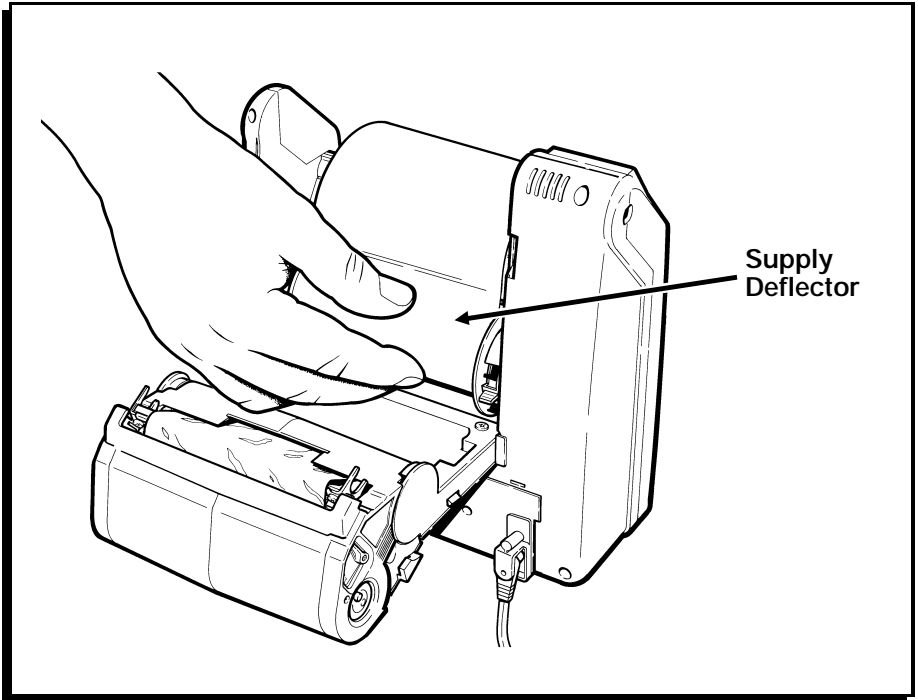

Figure 28
11. Continue feeding the supply strip through the fan-fold slot until the strip exits through the back of the printer, under the supply deflector. The supply strip should feed around the supply deflector and over the top of the printer as shown. (Figure 28.)